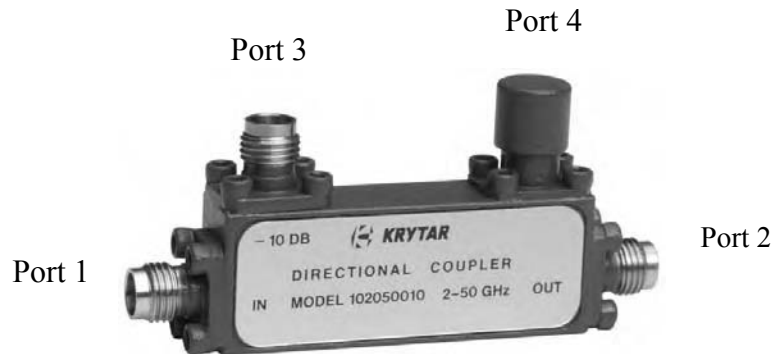

Figure 1
**1. Directional Coupler.** Components that allow two microwave circuits to be combined into one integrated system in one direction with the two completely isolated from each other in the opposite direction. See Figure 1 above.